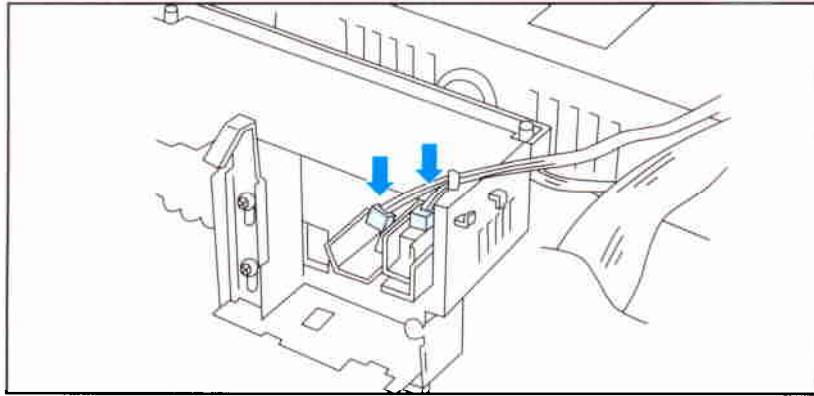

Figure 7-3 Photosensor PS8 Connections on HVPS (HVPS inverted)
2. Enter the PS8 test address (10) and press **Enter**.
5. The display should change from low to high (zero to one) as the photosensor is activated. If it does not change, check that the PS8 connector on the High Voltage Power Supply are fully seated, as shown in Figure 7-3. (The connectors are on the back of the HVPS.).